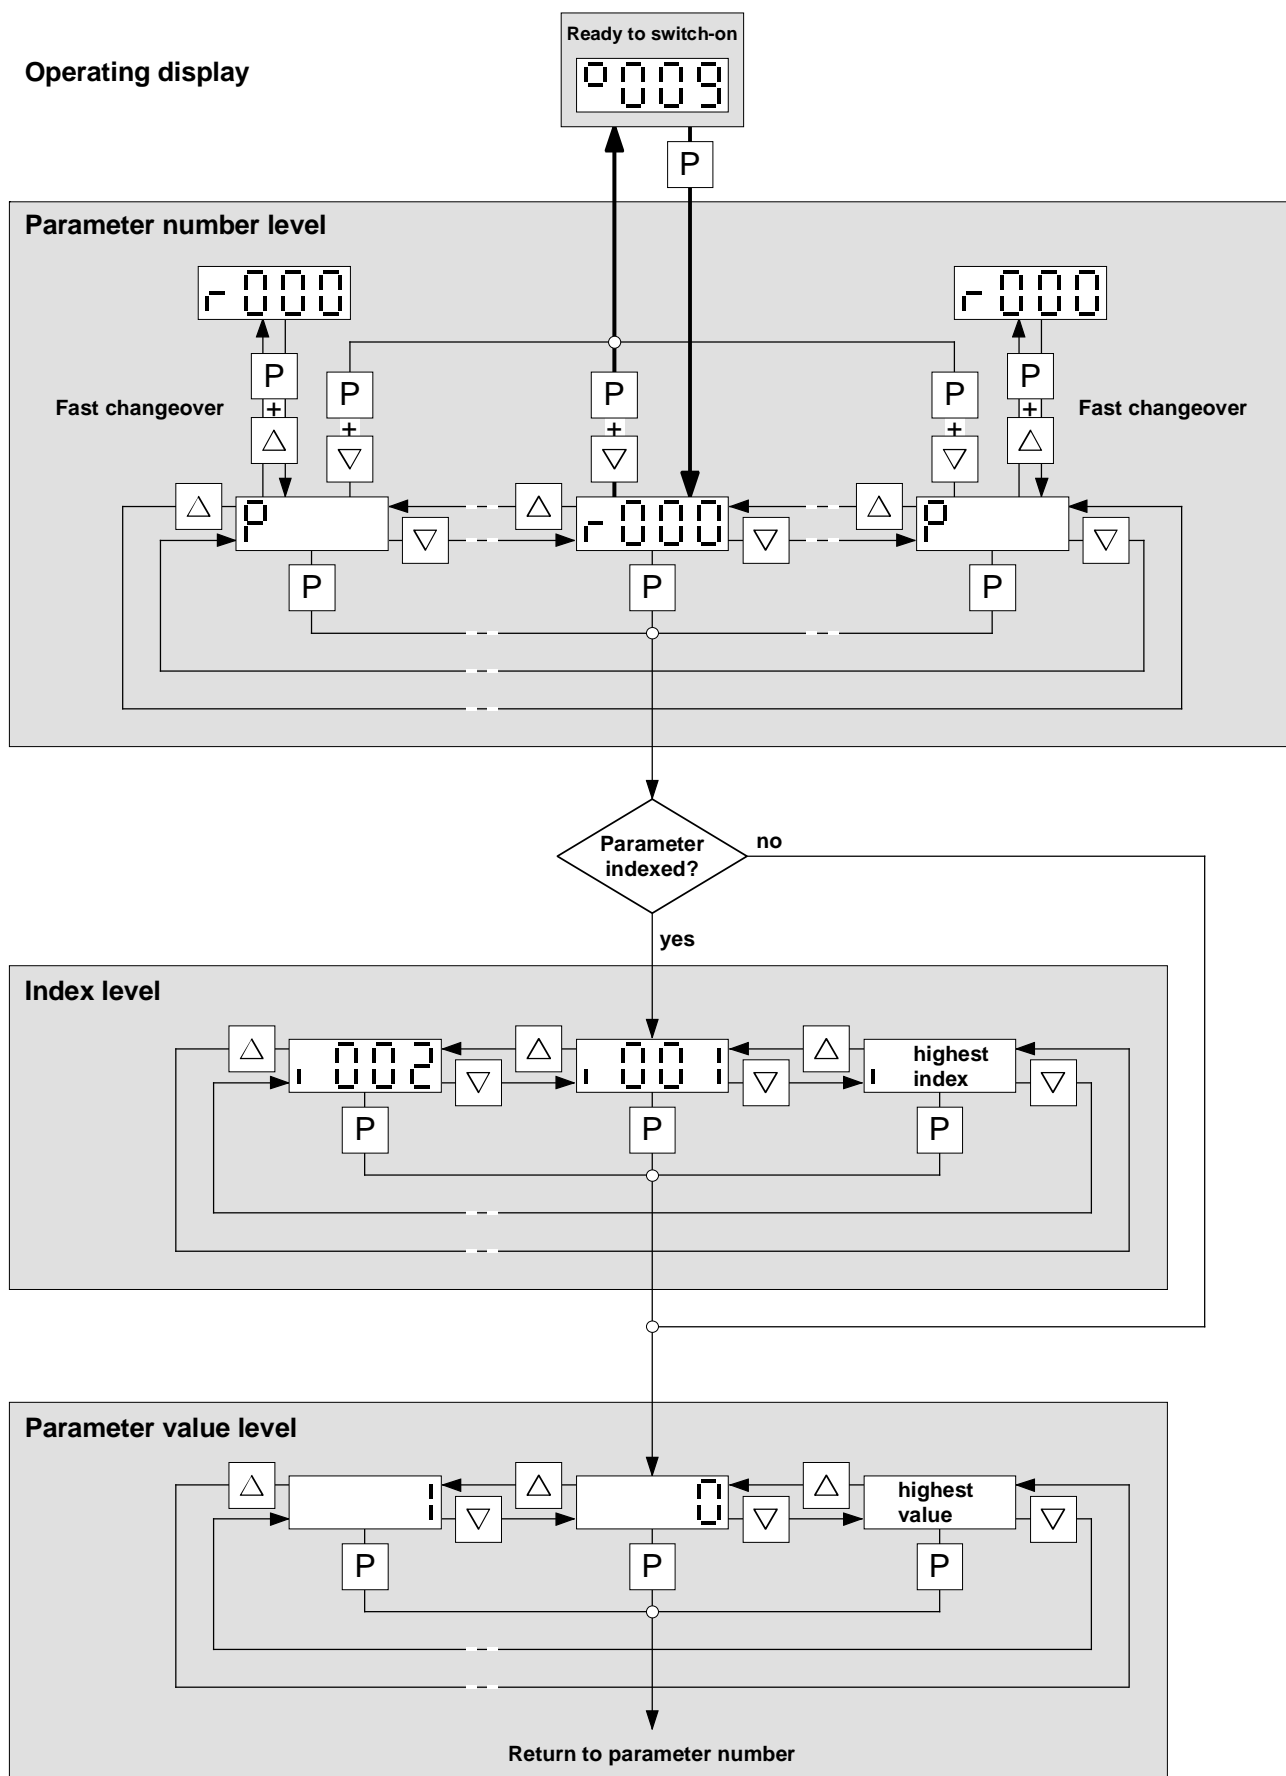
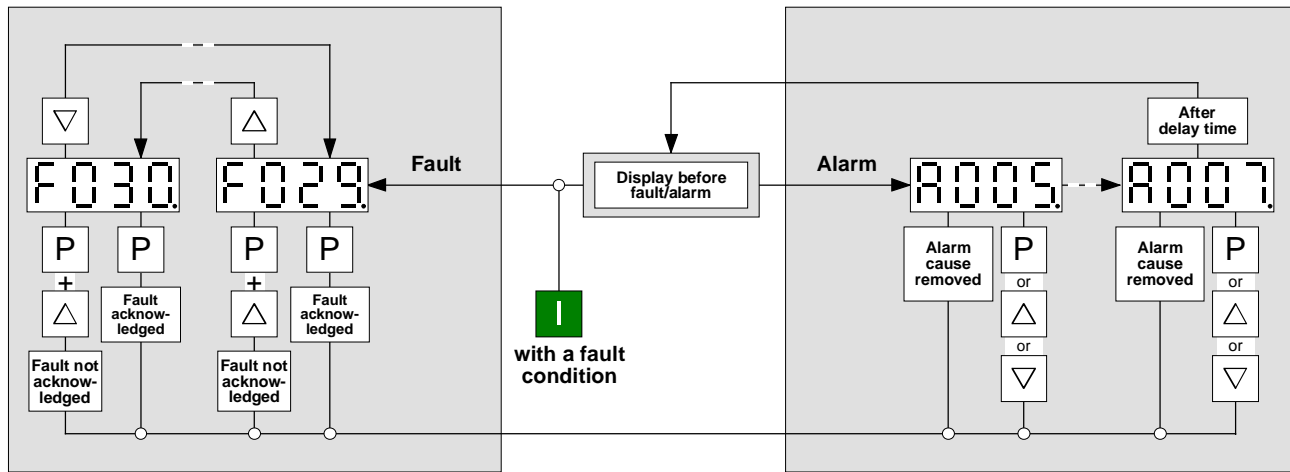

Figure 6.2 Operator control structure using the PMU
Figure 6.3 Operator control structure of the PMU for alarms and faults
1) Changeover between parameter number, index and parameter value levels (see Figure 6.2), whereby the command only becomes effective when the key is released. 2) Resetting the current fault message (see Figure 6.3) 3) In conjunction with the arrow keys <raise> and <lower>, additional functions are possible (refer to Figs. 6.2 and 6.3), whereby <P> is pressed first followed by the other key. This command becomes effective once the other key has been pressed.
As described in Section 6.3 (Figures 6.2 and 6.3), it is possible to change over from one display level to another.
When a fault or alarm is generated, it is displayed immediately on the PMU as well as on the optional OP1S (see Section 6.3, Figure 6.3). An alarm disappears automatically from the display when the problem has been corrected. A fault message must be reset by pressing the P key on the PMU or the reset key on the OP1S after the problem has been corrected, before it is possible to return to a normal operating state.